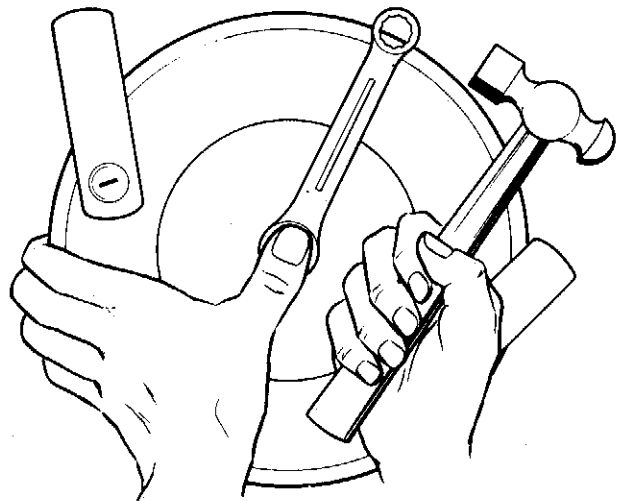

Fig. L19
4. Steady the spanner and the blade holder with one hand, tap the handle of the spanner with a hammer (see Fig. L19) and remove nut and blade holder. When refitting the blade holder, finally tighten the nut by tapping the spanner with a hammer in the reverse direction.